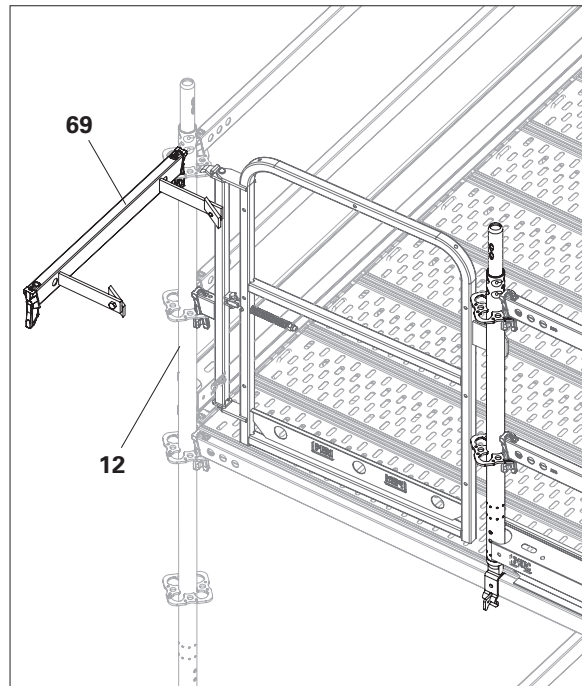

Fig. A9.12a
1. Insert two ladder connectors UAC- 2 (**69**) into rosettes on torsionally stiff standards (**12**) and knock wedges into place. (Fig. A9.12a)